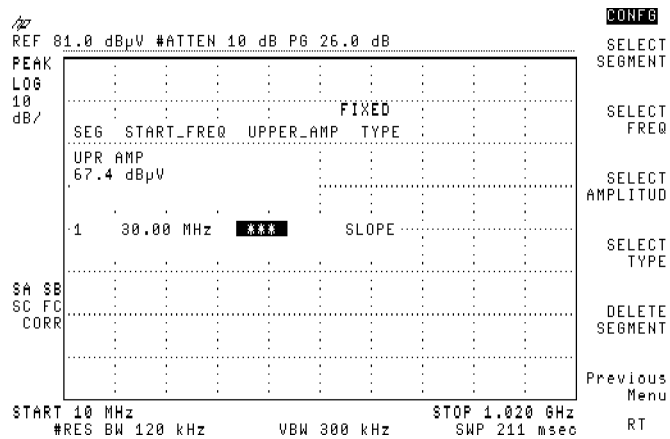

Figure 3-67. Selecting the First Frequency
13. Press **SELECT FREQ**, 30, and **(MHz)**. See Figure 3-67.